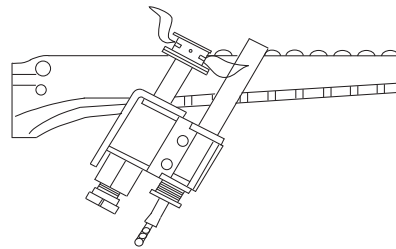

Figure 71. Millivolt Pilot Burner Flame
4. Make visual check of the burner and pilot flames. Yellow flame means restriction of the air openings. Lifting or blowing flame indicates high gas pressure. Low flame means low gas pressure. Should the latter occur, shut the heater off and contact your gas supplier or qualified service agency. See **Figure 70** and **Figure 71**.